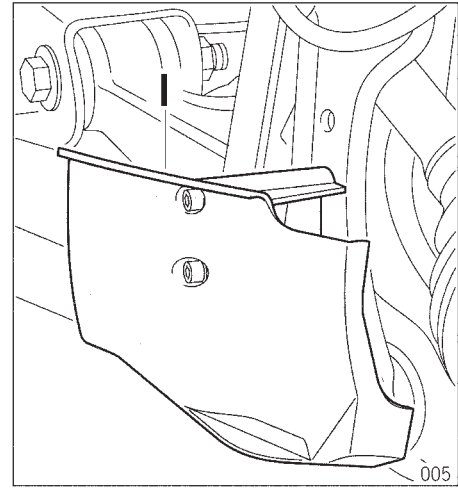

Figure 5
8.1 Clip in air-guide element Figure 5, Item I, (955.351.117.00/118.00) to spring strut and fasten with screws (N 105 475 01) and nuts (N 102 058 02).